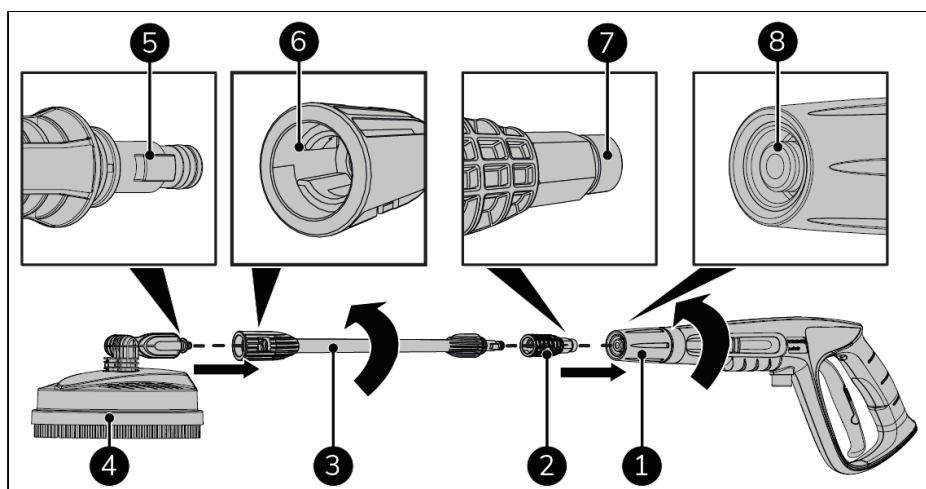

Figure 33.
1. Align the ridge of the floor cleaner (Figure 33, pos. 5) with the groove in the floor cleaner lance (Figure 33, pos. 6).
2. Insert the floor cleaner (Figure 33, pos. 4) into the floor cleaner lance (Figure 33, pos. 3).
4. Insert the adapter (Figure 33, pos. 2) into the floor cleaner lance (Figure 33, pos. 3).
5. Screw the floor cleaner lance (Figure 33, pos. 7) on the jet gun (Figure 33, pos 8).